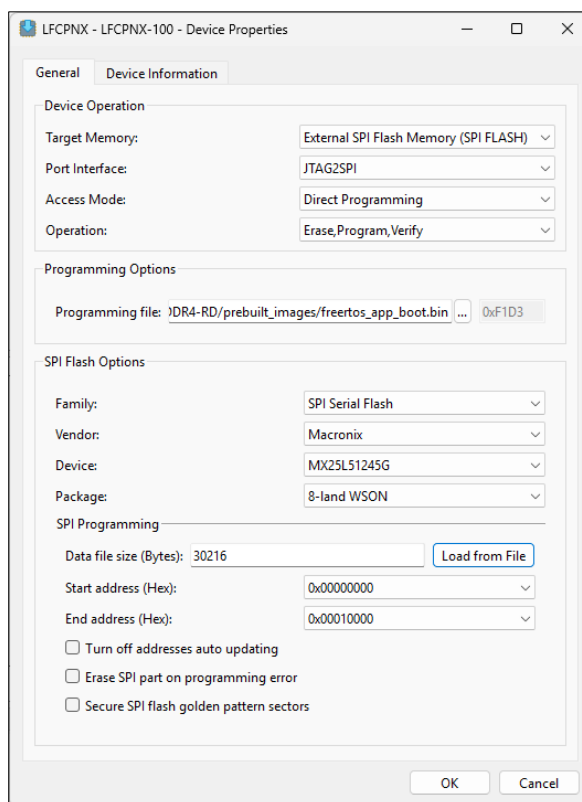
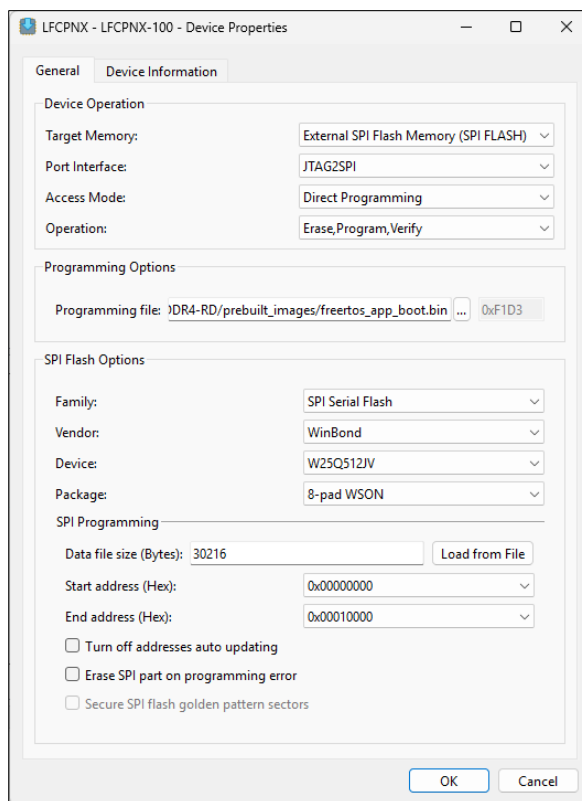

Figure 10.1. Flash Device Properties for Macronix
Figure 10.2. Flash Device Properties for Winbond
2. In the **General** tab, configure the following options based on the flash device used. Refer to Figure 10.1 if using **Macronix** flash device, or Figure 10.2 if using **Winbond** flash device.